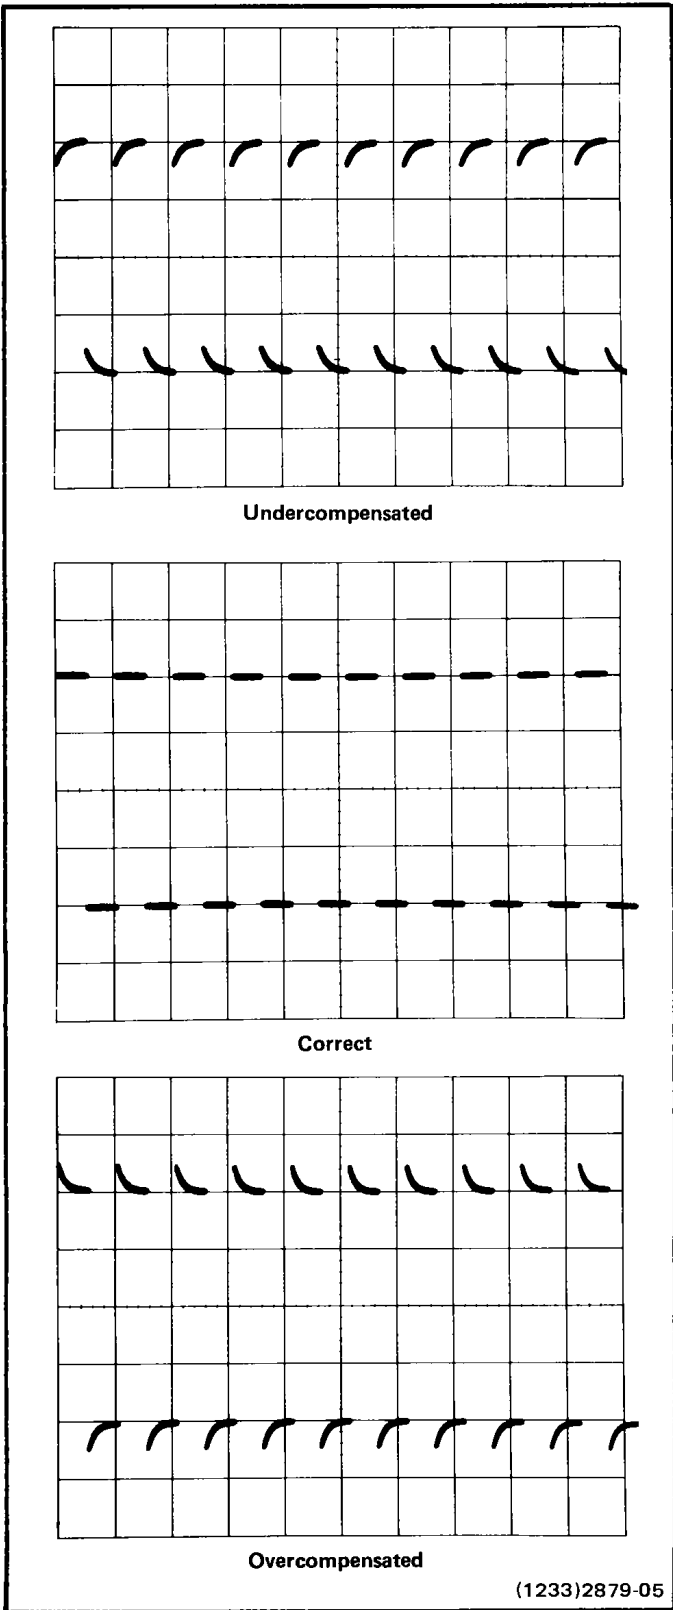
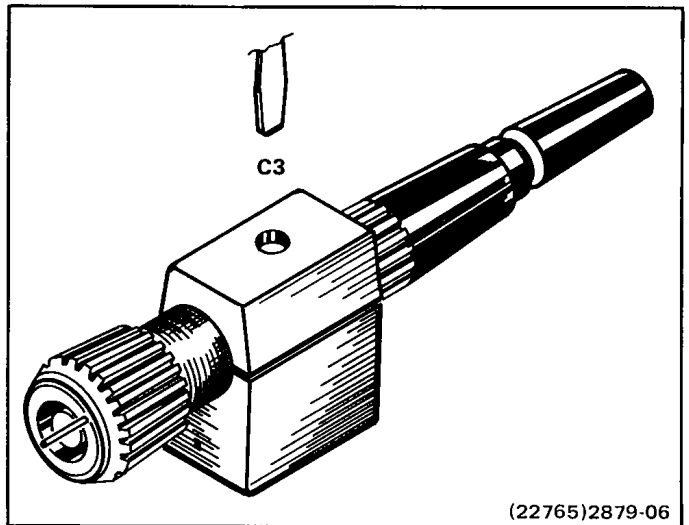

Fig. 4. Probe low-frequency compensation (C3).
Fig. 5. Low-frequency adjustment location.
c. ADJUST—the probe low-frequency compensation (C3, see Fig. 5). Use a low-reactance adjusting tool (e.g., nylon) when making any compensation adjustments in the P6106. Figure 4 shows the approximate range of adjustment, and the correct setting.